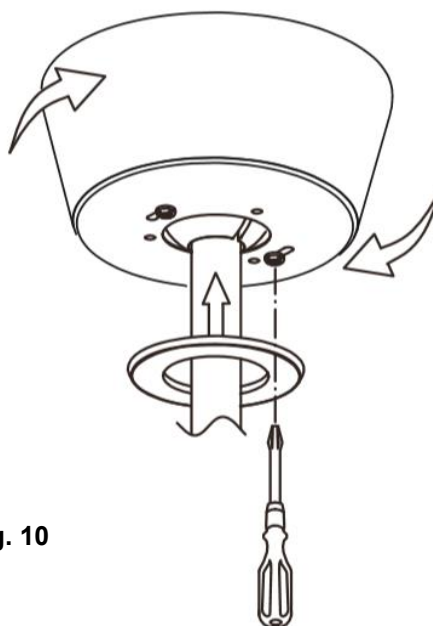

Fig. 10
INSTALLATION OF THE CANOPY (Fig. 10)
1. To replace a new battery, Press the top of the battery compartment cover and loosen the screw in the same time further to remove the battery compartment cover (Fig. 10 b).